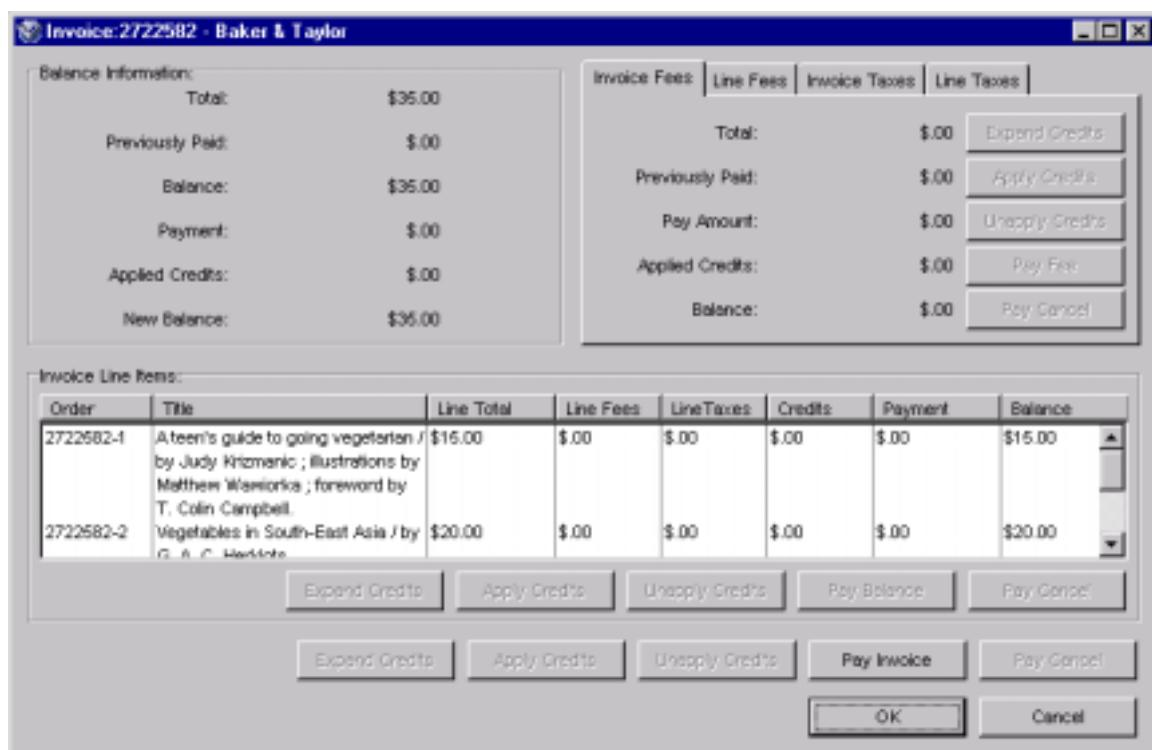

Figure 8-12. Invoice (Payment) Window
1. Display the Invoice (payment) window (*Figure 8-12*).